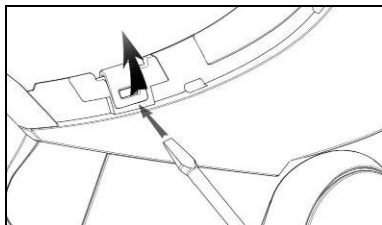

Fig. 28
- Unhook the right clip from the shell, levering upward using a flat head screw (or a similar tool), as shown in figure 28.